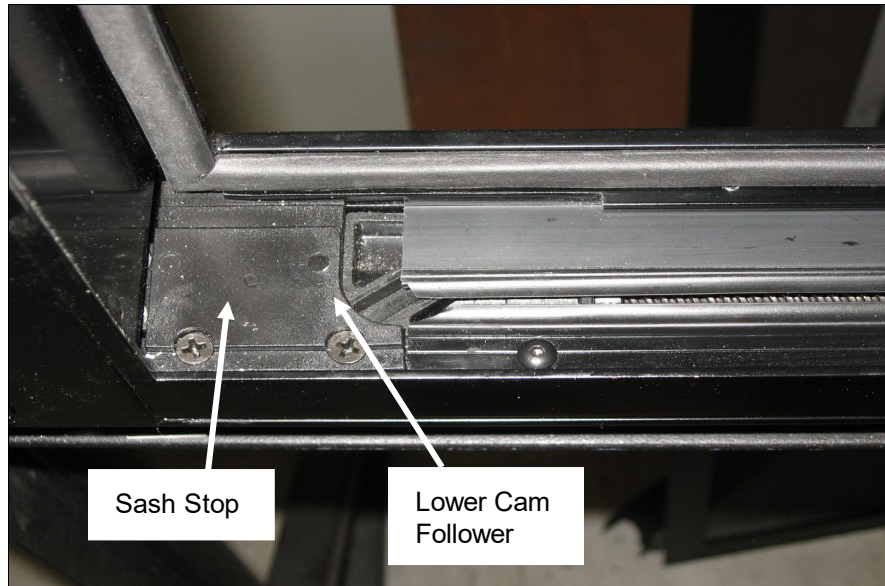

FIGURE 108: DISENGAGING THE BOTTOM OF THE SASH
3. Lift the sash up and out to disengage the bottom of the sash from the window frame. (Figure 108)